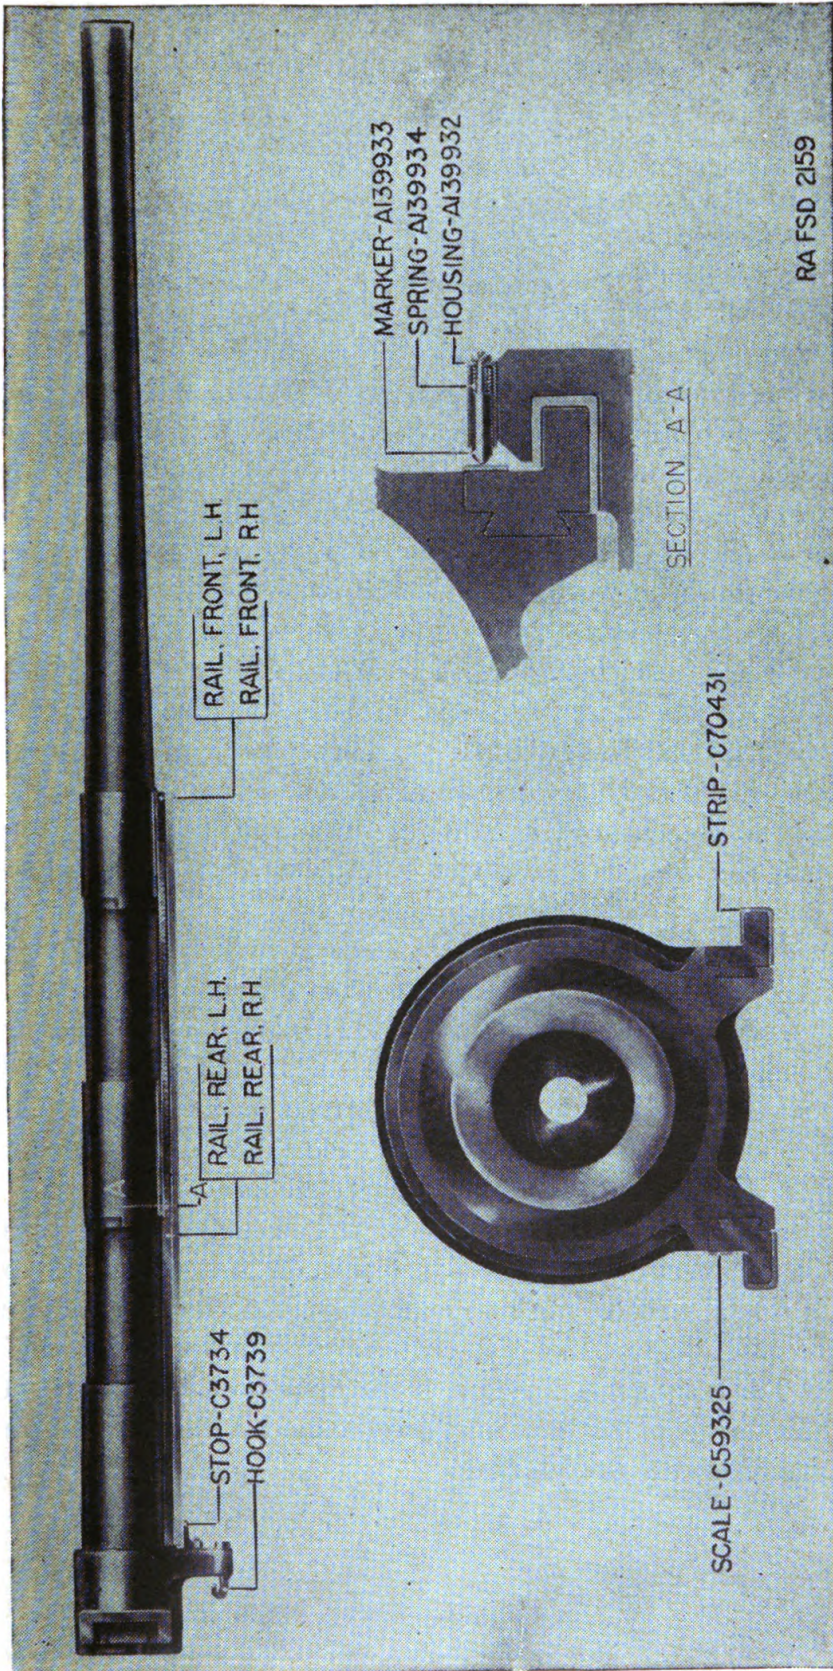

FIGURE 6.—155-mm gun M1A1.
**3. Tube or barrel assembly.**—*a.* The 155-mm gun M1 is of the built-up type fitted with longitudinal gun slides and bearing strips. Stamped on the breech are the name of the manufacturer, the year of manufacture, the model and serial numbers, and the total weight including the breech mechanism (fig. 6).